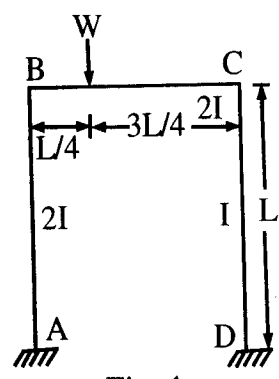

Fig. 4
- Q.1 Solve the structure shown Fig. 4 using moment distribution method. Draw B.M.D. and deflected shape.